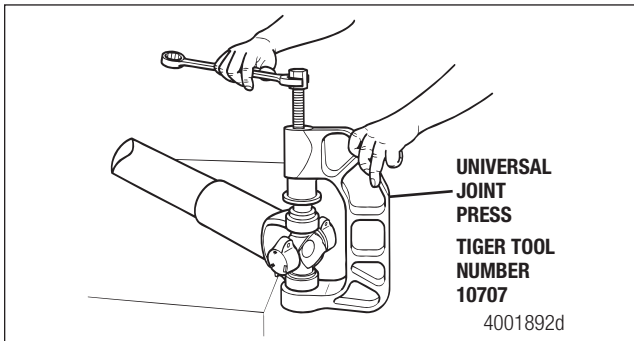

Figure 5.33
1. Position a universal joint press (Tiger Tool number 10707). Figure 5.33. Refer to the Service Notes page on the front inside cover of this manual for information to obtain this tool.